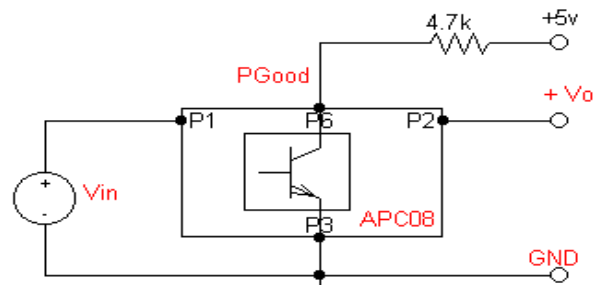

Figure 6. PGood setup.
8. Refer to Figure 6 for the PGood configuration.
PG pin provides an output signal indicating the Vout is operational (TTL logic signal). It can sink current up to a maximum of 5mA and can have a maximum external pull-up voltage of 6V. Please see recommended setup shown on Figure 6.